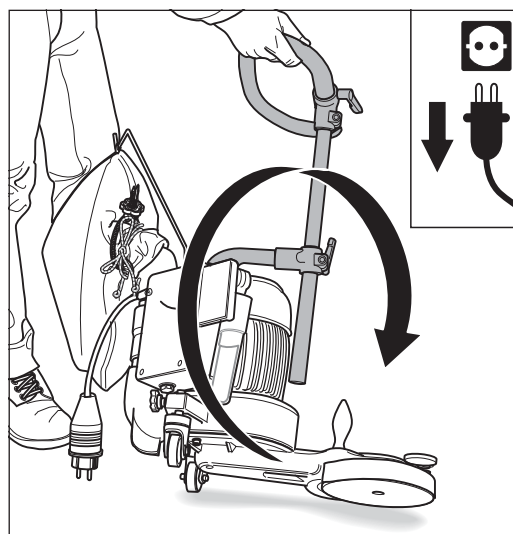
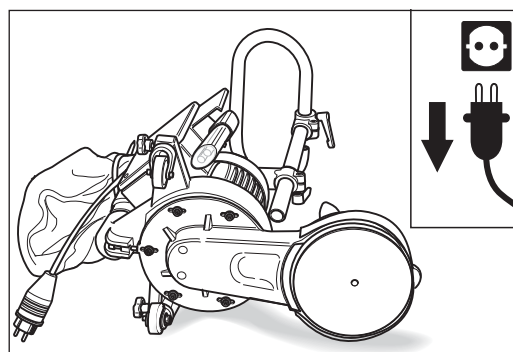

Fig. 45 Tilt the UNICO over to the **left-hand** side and set it down carefully.
Fig. 46 Place the UNICO down on the **left-hand** side only.
- 2 Place the UNICO on its side by grabbing the machine by the handlebar on the right-hand side and then tilt the machine over to the **left-hand** side (fig. 45) and set it down carefully. **Always** set the UNICO down on the **left-hand** side (fig. 46)! This will prevent damage to the floor.
- 2** Place the UNICO on its side by grabbing the machine by the handlebar on the right-hand side and then tilt the machine over to the **left-hand** side (fig. 45) and set it down carefully. **Always** set the UNICO down on the **left-hand** side (fig. 46)! This will prevent damage to the floor.